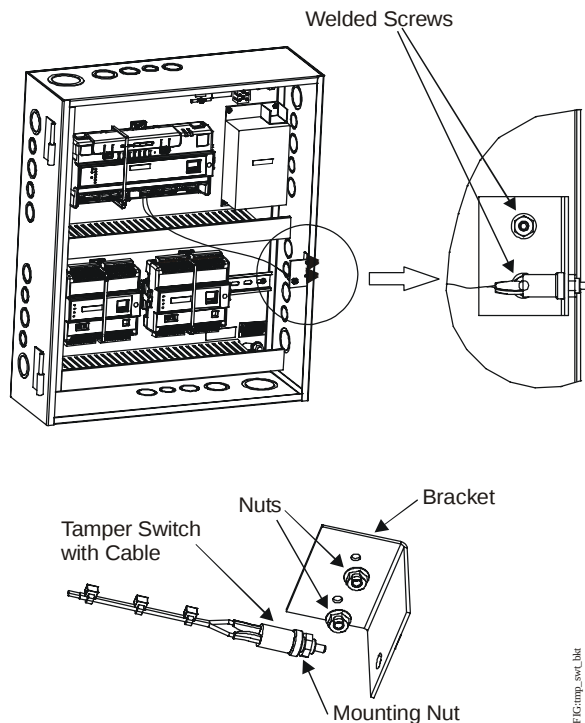

Figure 1: Panel Bracket and Screw Positioning
1. Position the bracket on the inside of the right side panel so that the two screws go through the bracket holes. The screws are welded to the inside of the panel (Figure 1).